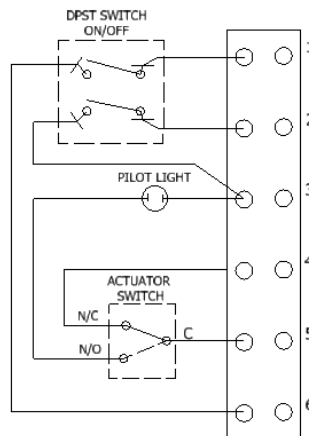

FIGURE 2
2. The HS589 Control Unit must be hardwired. See (Figure 2) for factory internal wiring diagram.